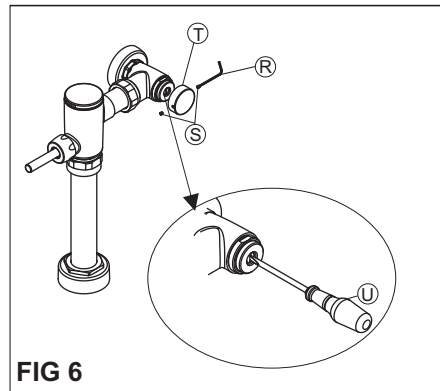

FIG 6
5 - Adjust stop valve to meet the flow rate required for the proper cleansing of the fixture, see fig 6. Using a Allen tool (R) loose the screws (S) and remove the stop cap cover (T). Using a screwdriver (U) open control stop (COUNTERCLOCKWISE) ½ turn from the closed position. Activate flushometer. Adjust control stop after each flush valve until the rate of flow delivered properly cleanses the fixture. After adjustment, install the stop cap cover again.